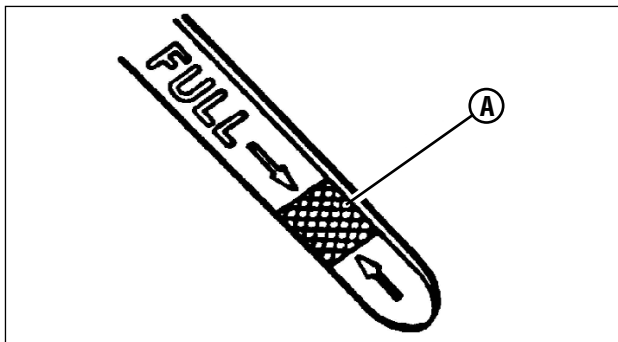

Figure 1: Engine oil 'Full' mark
3. Check engine oil and add oil as needed to bring level up to the FULL mark (**A**, **Figure 1**). Refer to the engine manual for oil specifications.